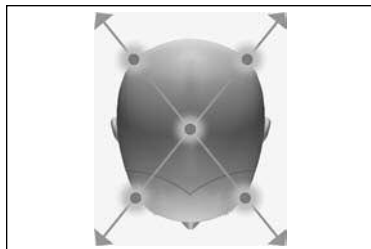

FIGURE 22 | The four corners.
- The four corners are located by crossing two diagonal lines at the apex (Figure 22). The lines will point to the front and back corners of the head.